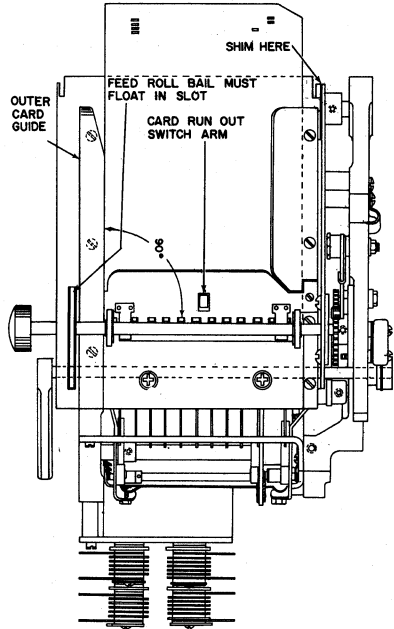

Figure 26
- The upper feed roll ball should be shimmed so that it floats in the card table slot (Figure 26). Loosen the set screws on the pivot shaft and slide the shaft to the left until shims can be installed or removed to obtain the adjustment. Re-assemble and tighten the set screws.